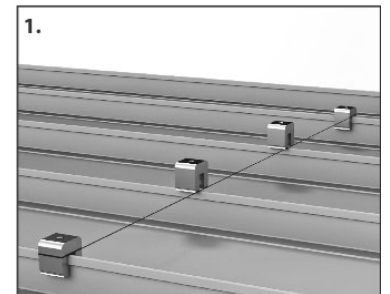

Figure 1
1. Install the first row of S-5! clamps, at the edge of the array: It is critical that this row is straight. Install clamp (per section 1.5.1) at both ends of the row, by measuring from a reference point such as the eave of the roof. Tighten the setscrews with screw gun and the included hex-bit tip. The setscrews will dimple the seam material but will not penetrate it. When relying on published load values, setscrew tension should be verified periodically using a calibrated torque wrench to ensure the tool is consistently achieving the proper torque range. (See Section 2.1.4 for torque range.) Please see installation instructions provided with clamps for additional torque and tension specifics. Stretch a string line between the two end clamps to provide a true line to mount the remaining edge clamps (Fig. 1).